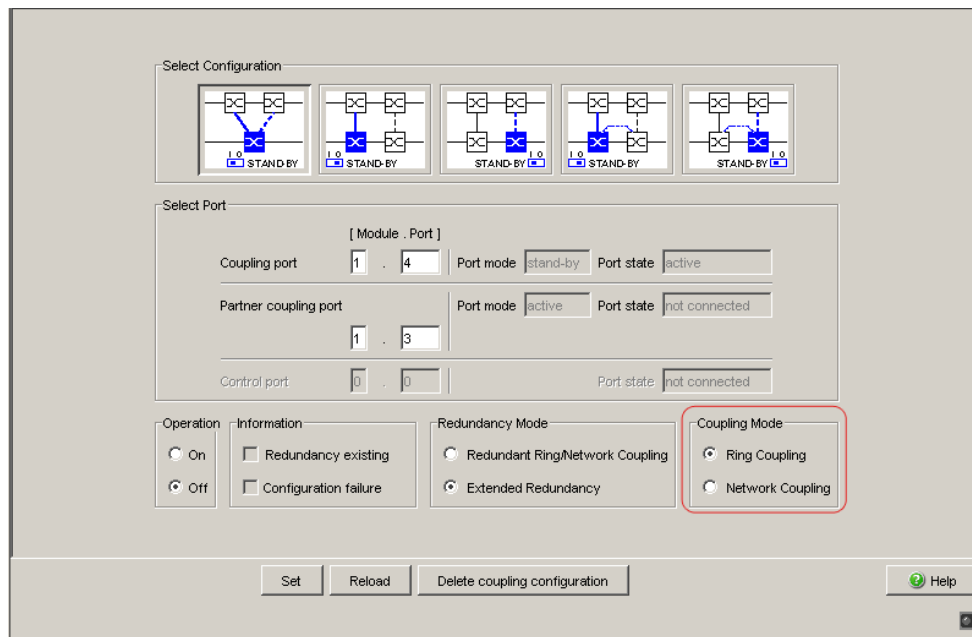

Figure 13: Selecting the coupling mode
□ In the “Coupling Mode” frame, select (see fig. 13)